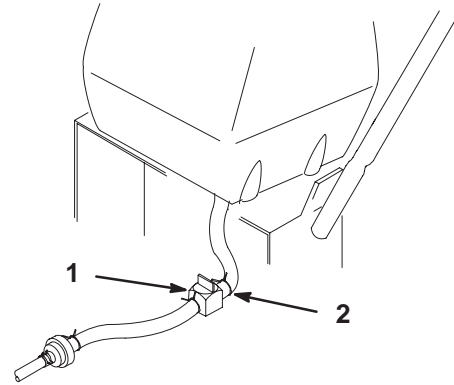

Figure 36
- Close fuel shut-off valve at fuel tank (Fig. 36).
- Squeeze the ends of the hose clamp together and slide it up the fuel line away from valve (Fig. 36).
- Pull the fuel line off the valve (Fig. 36). Open fuel shut-off valve and allow gasoline to drain into a gas can or drain pan.
- Open fuel shut-off valve at fuel tank (Fig. 36).
- Check for fuel leaks and repair if needed (Fig. 36).